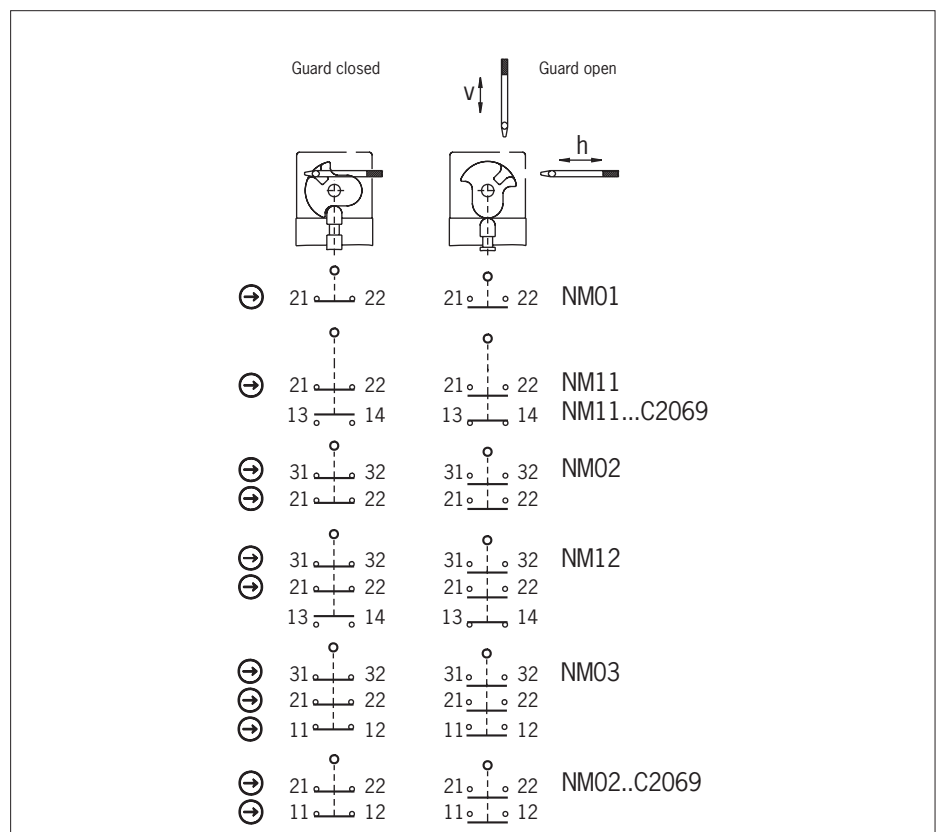

Fig. 3: Switching elements and switching functions
At least one contact \ominus must be used. This signals the position of the guard (for terminal assignment, see Fig. 3).
3. Connect and tighten the terminals with 0.5 Nm (for terminal assignment, see Fig. 3).